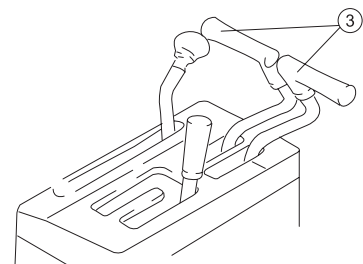

Figure 2-5
The steering lever (3) (Figure 2-5)